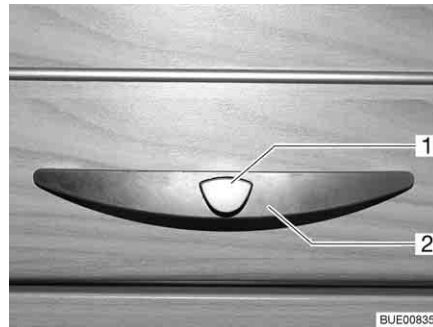
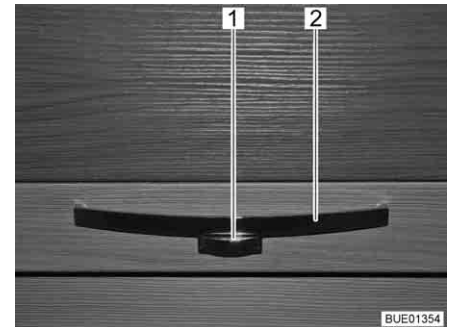

Fig. 47 Furniture flap with handle (example)
Fig. 48 Furniture flap with handle (example)
- Press the release knob (Fig. 47,1 or Fig. 48,1) on the handle (Fig. 47,2 or Fig. 48,2) and hold it down.